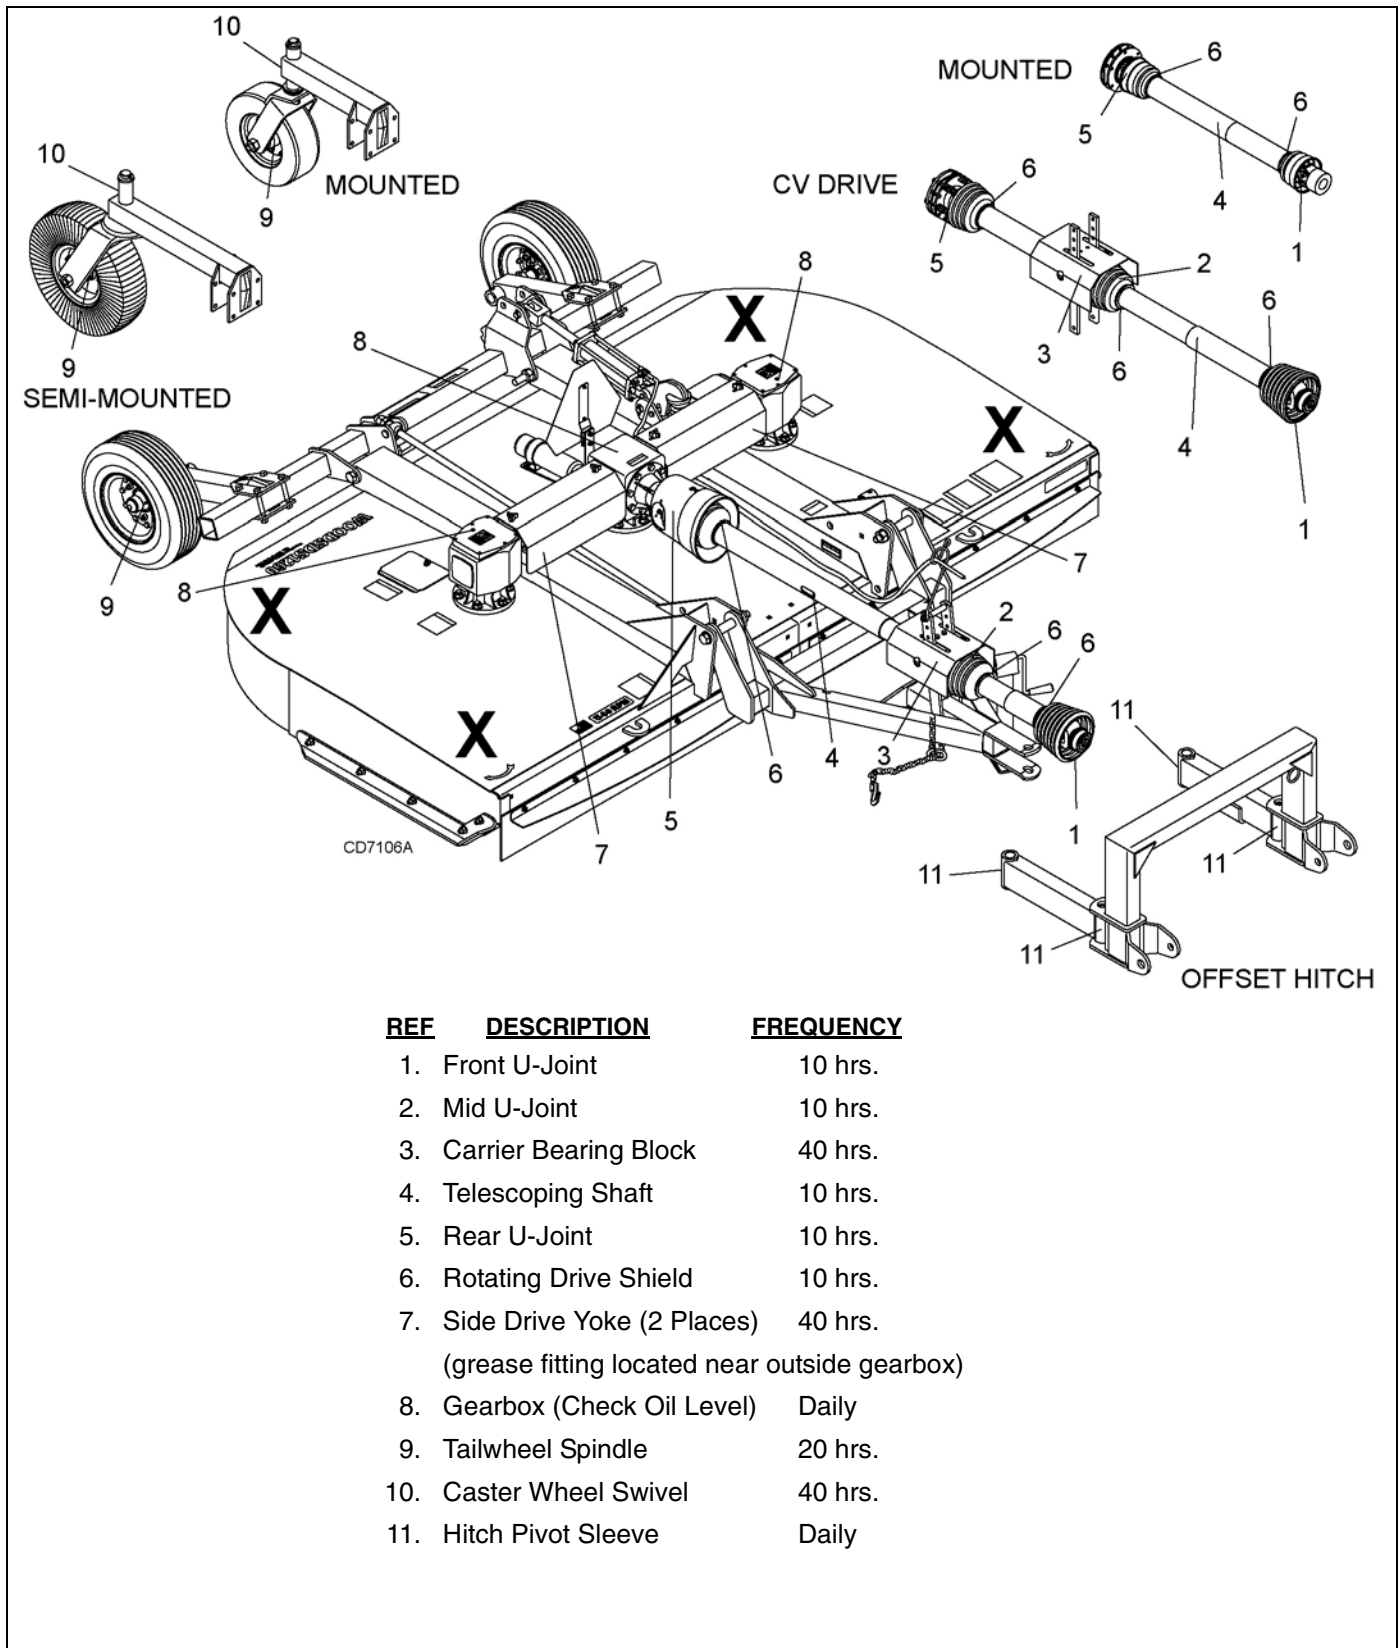

Figure 10. Jackstand Placement and Lubrication Points
1. Jackstands with a load rating of 1000 lbs or more are the only approved blocking device for this cutter. Install a minimum of four jackstands (shown by Xs in Figure 10) under the cutter before working underneath unit.
See Figure 10 for lubrication points and frequency or lubrication based on normal operating conditions. Severe or unusual conditions may require more frequent lubrication.